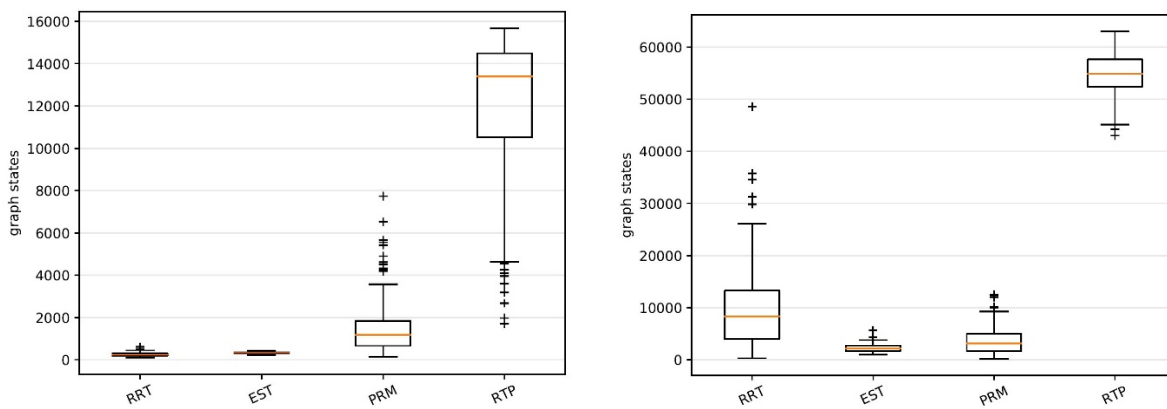

Figure 8. Number of states of four planners in 3D Cubicles and Twistycool scenarios
- Graph states: RTP samples much more states than the other three planners. Figure 8 shows the graph of each planner.